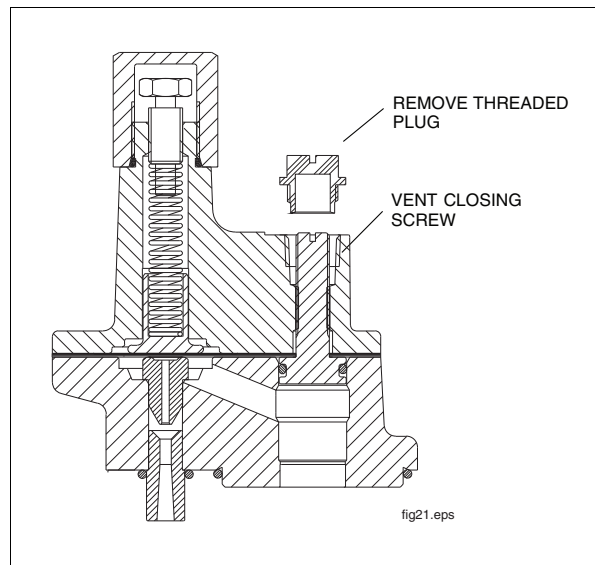

Figure 26. Closing The Check Valve
2. Remove protective plug and close pump check valve by turning the vent closing screw clockwise as far down as possible (see Figure 26).
1. Remove the protective plug and close pump check valve by turning the vent closing screw (see Figure 26) as far down as possible. Remove the 1/4" NPT tank test port plug and attach tank testing equipment. Apply tank test pressure at tank test port.